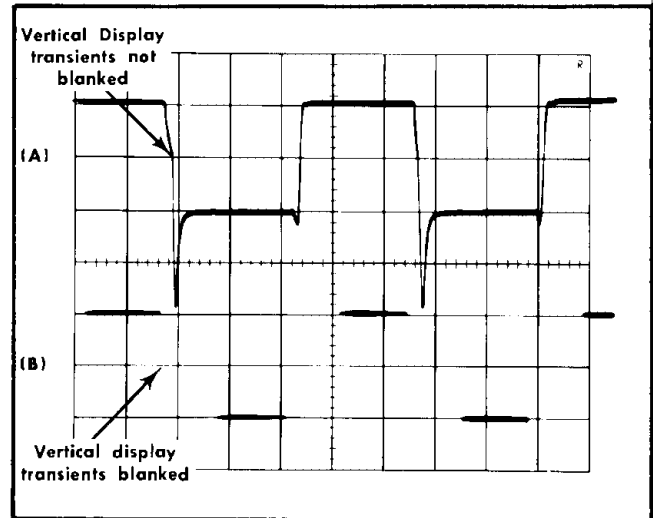

Fig. 6-24. Display presented when calibration oscilloscope CRT cathode selector switch set to: (A) Ext CRT cathode (B) Chopped blanking.
g. CHECK—Calibration oscilloscope display; the vertical display transients should now be blanked out during the switching interval (see Fig. 6-24).